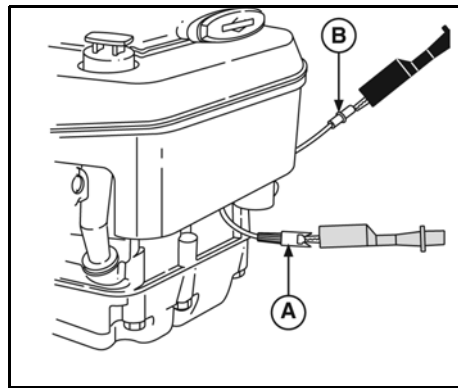

Figure 16
4. Attach RED test clip to output terminal (A, Figure 16).
5. Attach BLACK test clip to charging lead (B) that was disconnected at the connector.